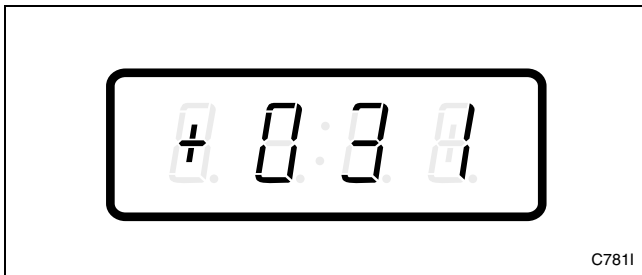

Figure 121
3. Press the LOW TEMP (+) or the NO HEAT (-) keypad to scroll through the programmable options until “+031” appears in the VFD. Refer to *Figure 121*.